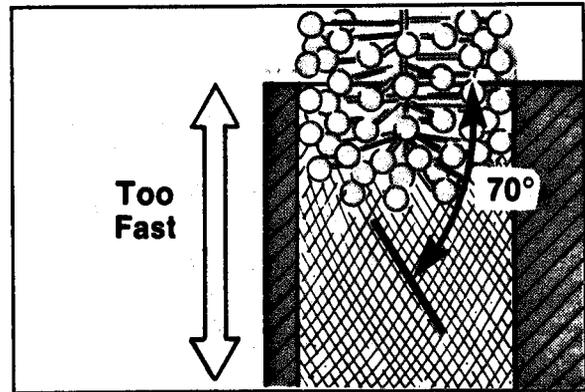

Figure 6-14
5. If drill speed is too slow or vertical stroke is too fast, crosshatch angle lines will show a 70-degree angle (Figure 6-14).